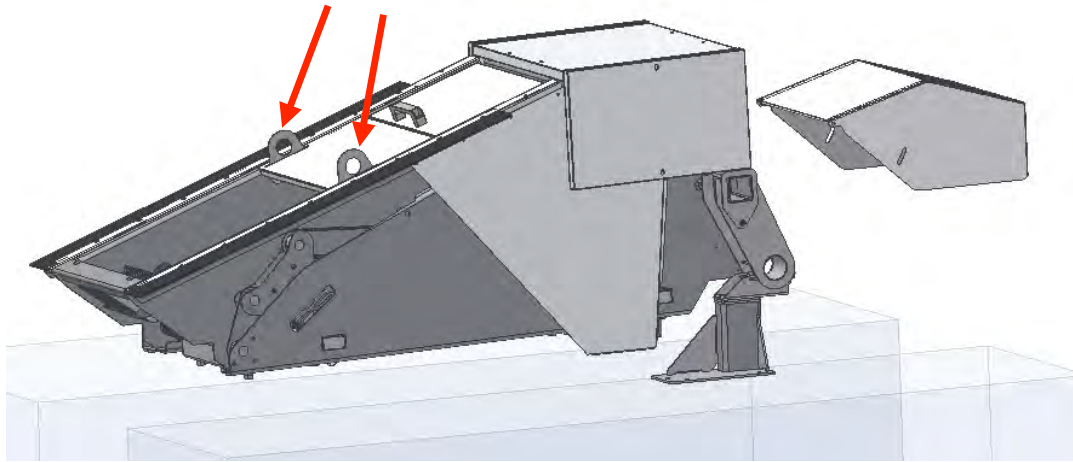

Figure 4. Lifting the screen, arrows showing lifting lugs.
- The machine must only be lifted at the designated lifting lugs – please see Figure 4 below.